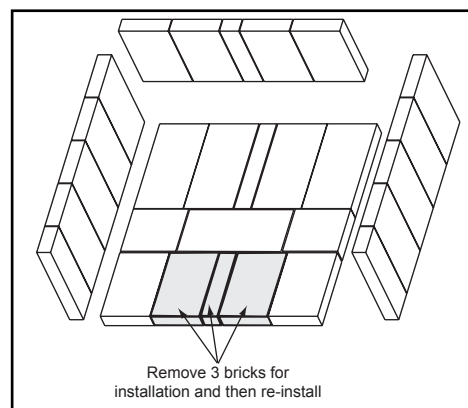

Figure 18.1
2. Remove the 3 bricks in the front most part of the firebox (**Figure 18.1**).
2. Remove the 3 bricks in the front most part of the firebox (Figure 18.1 on page 18).